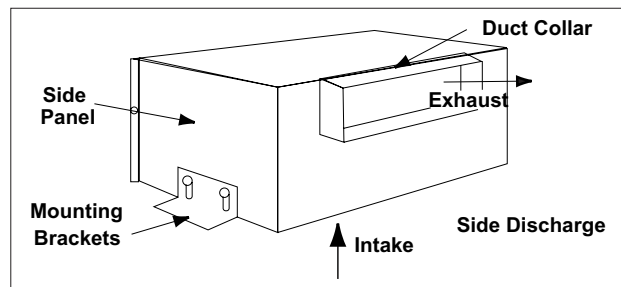

Figure 1
2. Fasten the housing to the bottom of the joists through the holes provided in the mounting bracket. Refer to *Figure 1*.